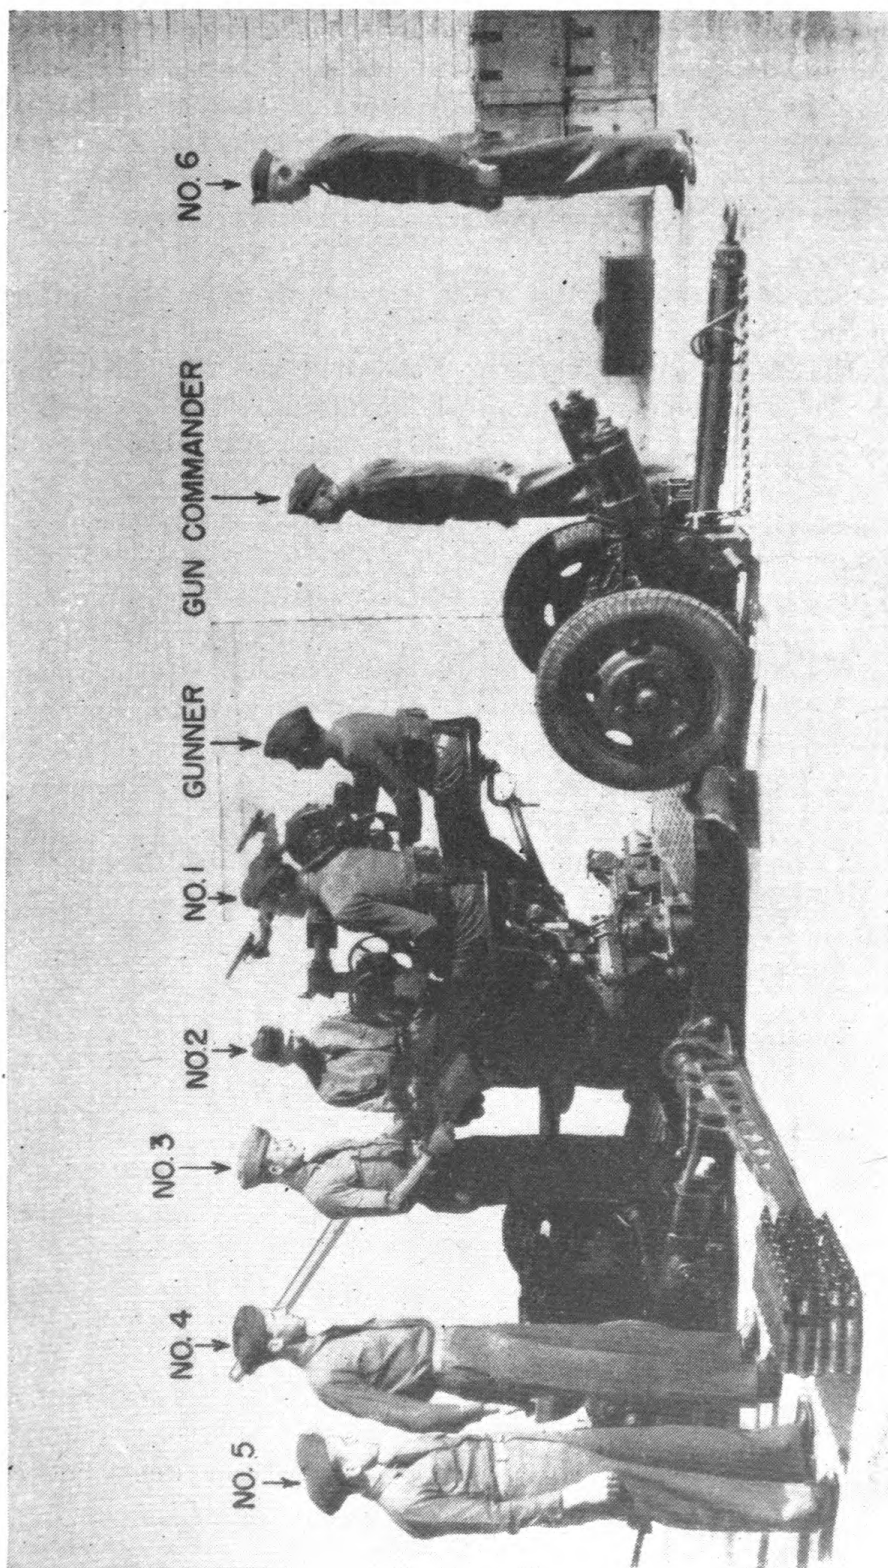

FIGURE 9.—Posts of 37-mm gun section.
Q. What are the posts of the 37-mm gun section? *A.* See figure 9.